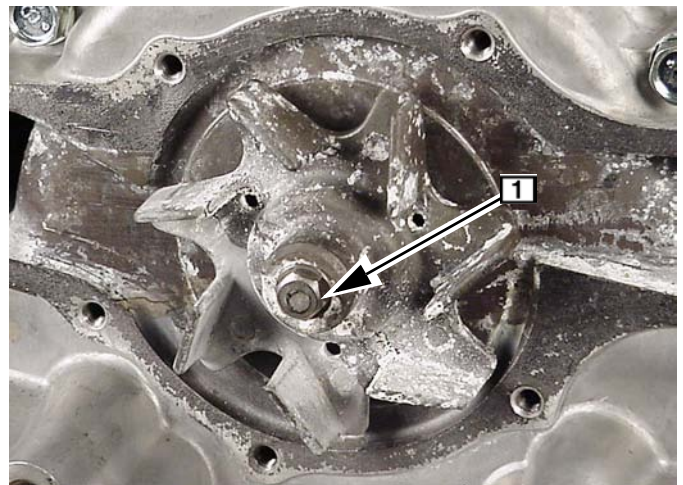

Fig. 146
4. Install water pump impeller, Fig. 146. Torque screw **1** to 90 in. lbs. (10.0 Nm).